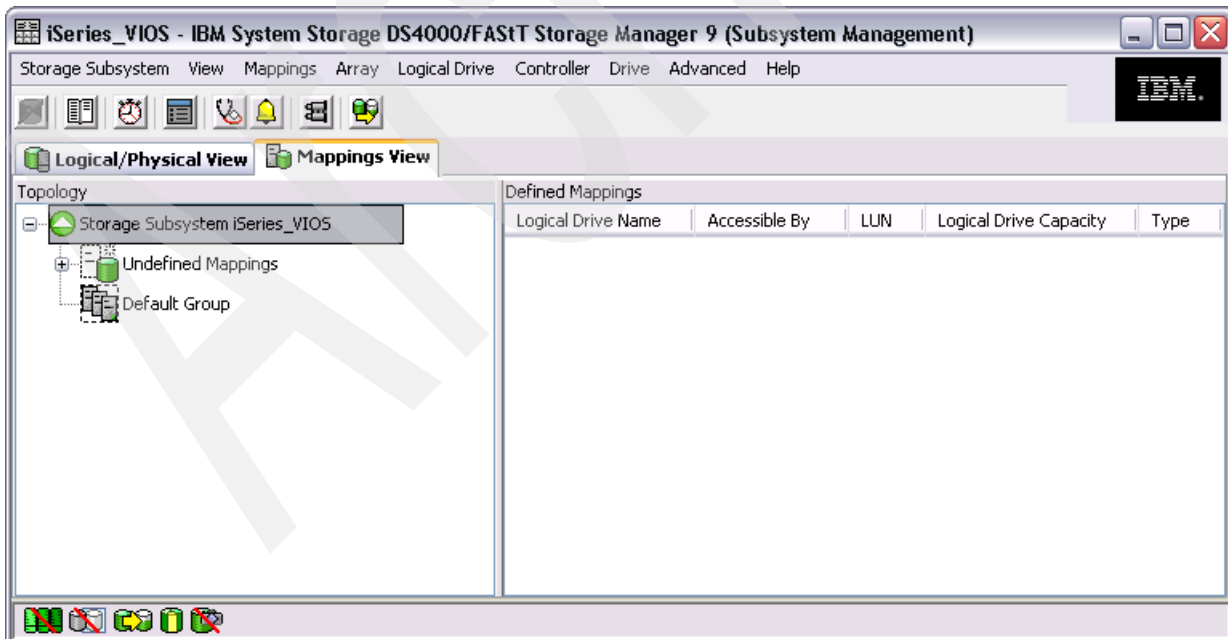

Figure 7-61 DS Storage Manager Mappings View
2. With knowing the WWPN information from our two dual-port PCIe FC adapters in VIOS (in our configuration example we only use port0 of each card) we are ready to create the host definition on the DS4800 by selecting the **Mappings View** for our storage subsystem in the DS Storage Manager GUI, as shown in Figure 7-61.